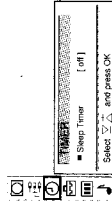

Fig. 32
- 1 Using **Δ** or **∇**, select the symbol **⌚** for »Timer« and press OK. The TIMER menu appears (see Fig. 32).